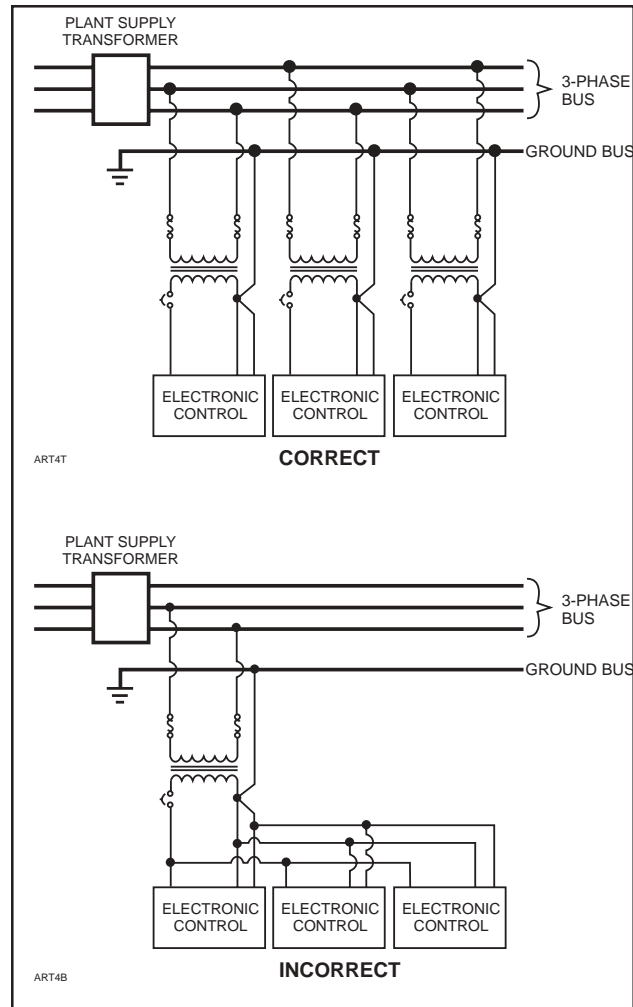

Figure 4
**Never daisy-chain or parallel-connect power or ground wires to electronic control panels.** Each electronic control panel must have its own supply wires back to the power source. Multiple electronic control panels on the same power wires create current surges in the supply wires which can cause controller malfunctions. Daisy-chaining ground wires allows ground loop currents to flow between electronic control panels which also causes malfunctions. (Figure 4)